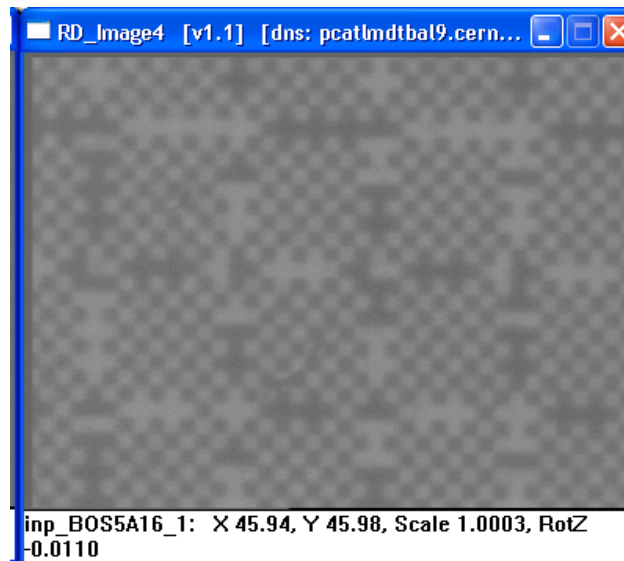

Figure 2.3: Image viewer of Server #4
2. Select and start the image-viewer of the PC the channel belongs to. For each server there is a separate executable. They reside in C:\Balign\bin\image. A shortcut on the desktop for each server might be convenient. As an example Figure 2.3 shows the viewer of server #4. During normal operation the viewer shows the images of the channels at a rate of 1 Hz.
- Grabbing*: to be used whenever there is serious doubt on the optical connection to the channel. Pressing the Start button triggers the Rasdim server to take images as fast as possible. A picture, as shown in Figure 2.3, should be seen. The Stop button terminates the grabbing. Another possibility is to reset the TopMux (by means of the Reset Mux button).